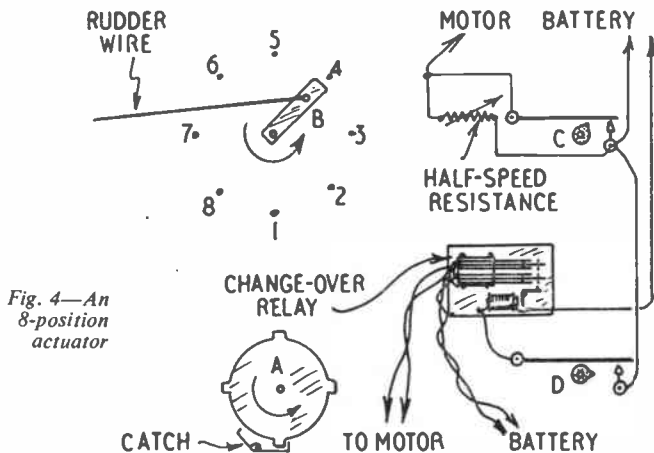

Fig. 4—An 8-position actuator
Here, the wheel (A) in Fig. 4 replaces the straight arm in Fig. 1, and the shape of the catch is slightly changed. By operating the transmitter key, the wheel can be made to take up any one of 8 positions, instead of the 4 of the simple actuator.